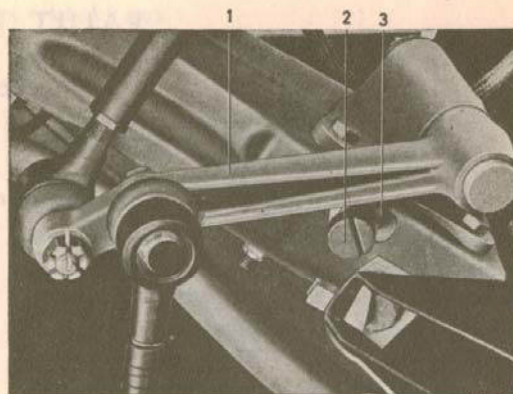
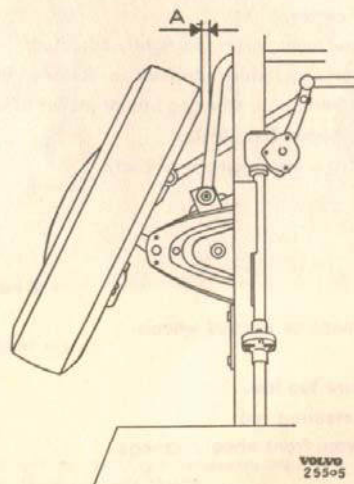

Fig. 6-40. Adjusting steering lock
Fig. 6-41. Steering lock measurement
The amount by which the wheels can be turned outwards is limited by means of stop screws at the pitman arm and idler arm (Fig. 6-40). Adjustment is carried out as follows:
1. Turn the left-hand wheel inwards (as though for taking a right-hand curve) as far as possible. Check that the distance between the tire and stabilizer (measurement A, Fig. 6-41) is 0.59" (15 mm). If not, slacken the locknut (3, Fig. 6-40)